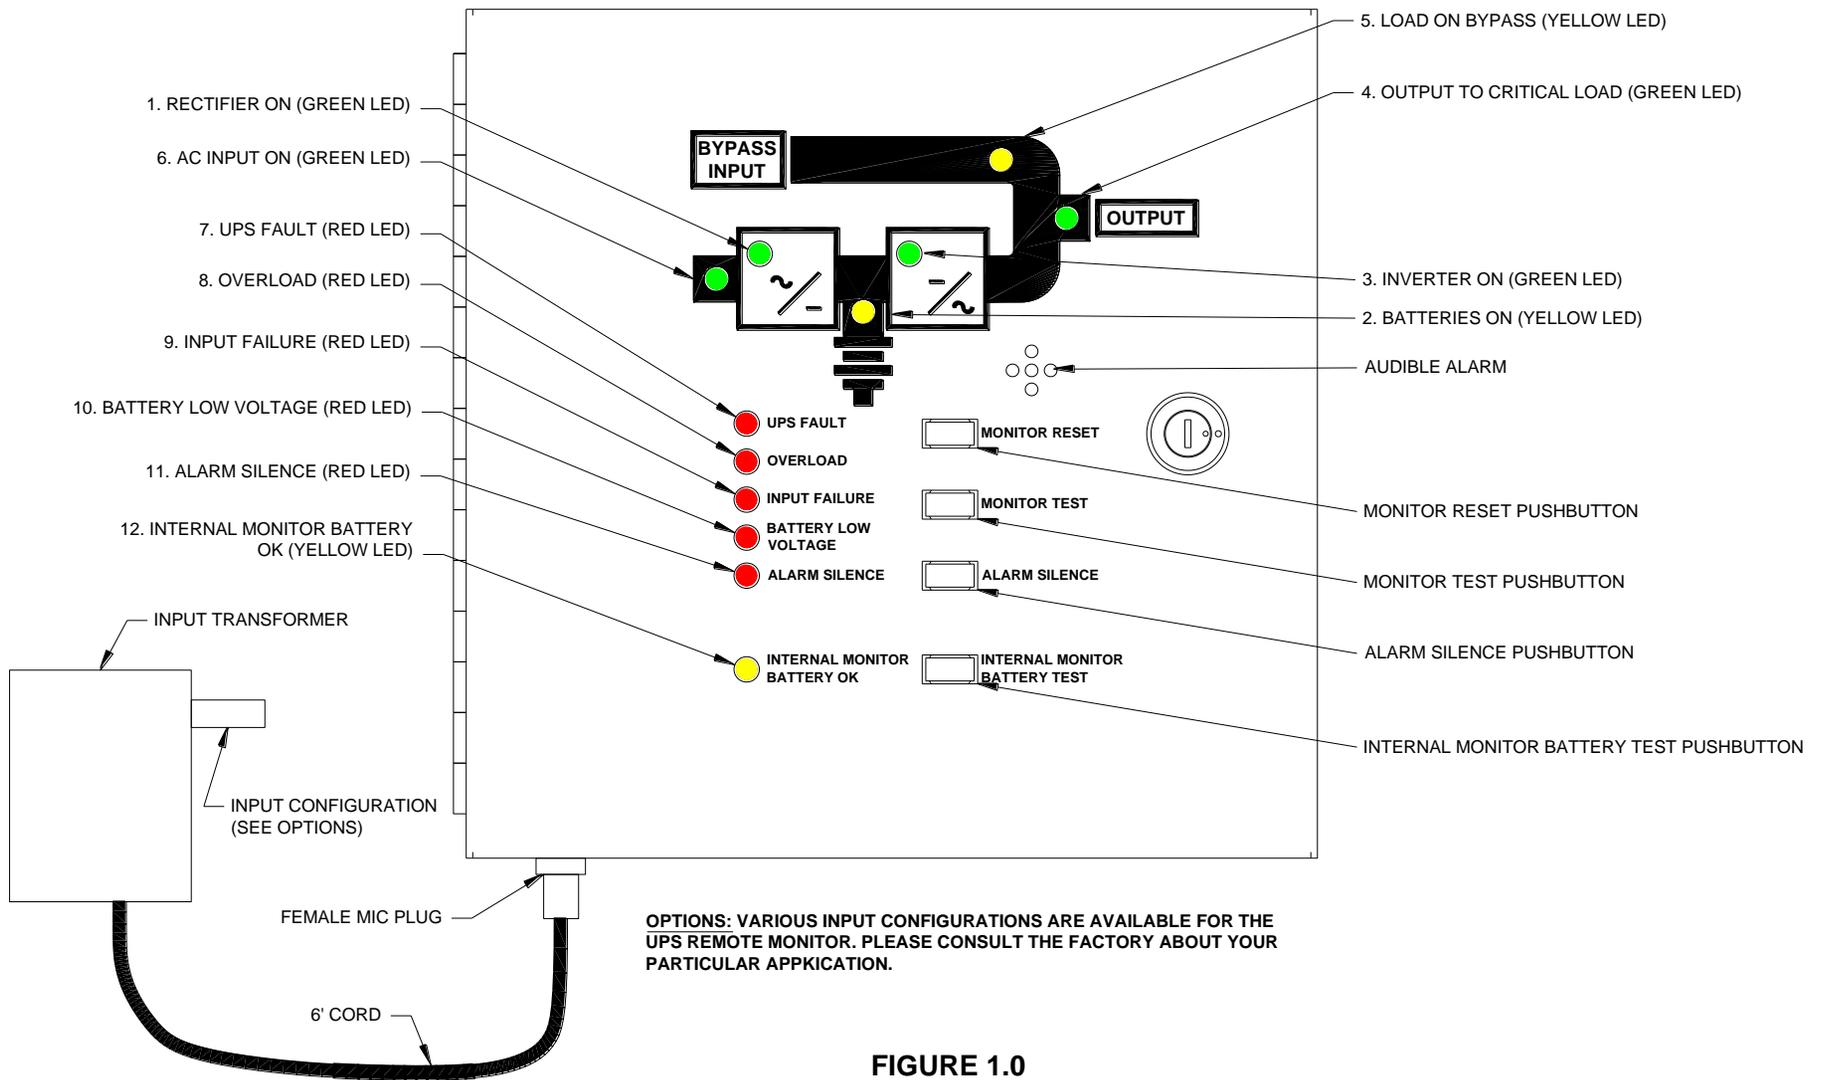

FIGURE 1.0
7. Referring to Figure 1.0, connect the power supply adapter into the corresponding jack located on the bottom left-hand side of the RSAP enclosure. Plug the power supply into a convenient 120V/60Hz wall receptacle. Failure to connect to a suitable wall outlet will drain the RSAP's internal batteries and/or result in damage to the monitor. (If supplied with the hardwire version, please refer to Figure 3.1 for AC input terminal block layout. Connect L1, Neutral, and Ground with minimum of 18awg wire.)
Refer to Figure 1.0 for the location of the LED's and pushbuttons described below: